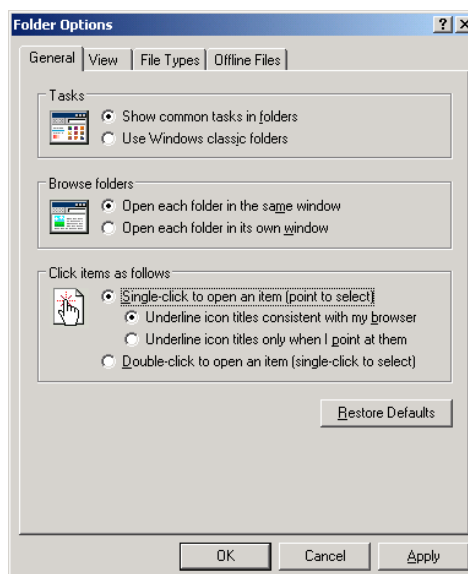

Figure 19 M6000 Controller, replacing double-click with single-click.
- The dialog box in Figure 19 appears.